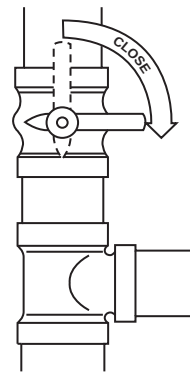

Fig. 17 – Close the External Manual Valve
2. Close the external manual gas valve (see Fig. 17).